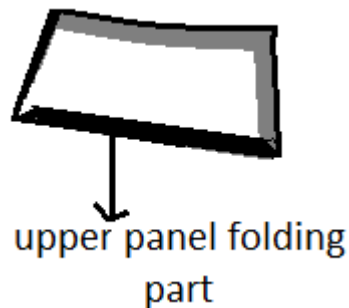

Fig. 5:4 upper panel fold
15. Stitch as shown in (*fig. 5:5 II.*)